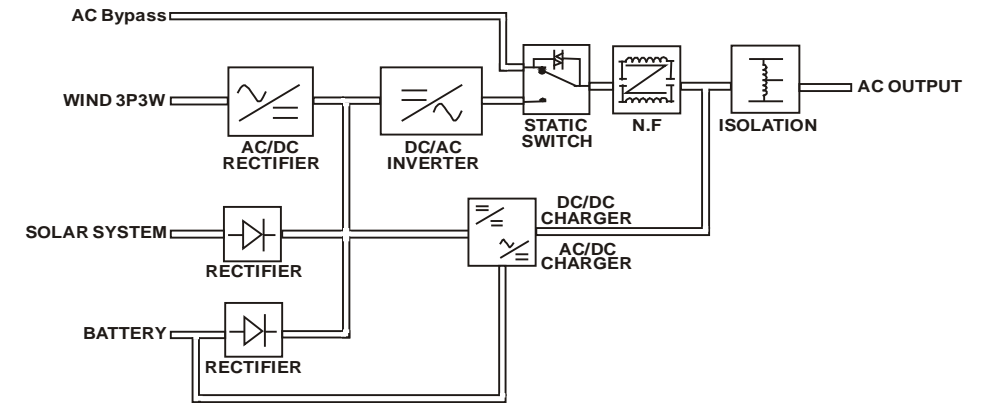

Figure 21: Inverter wind/solar (5in1) System Block Diagram
7.1 Inverter wind/solar (5in1) System Block Diagram (Fig.21)